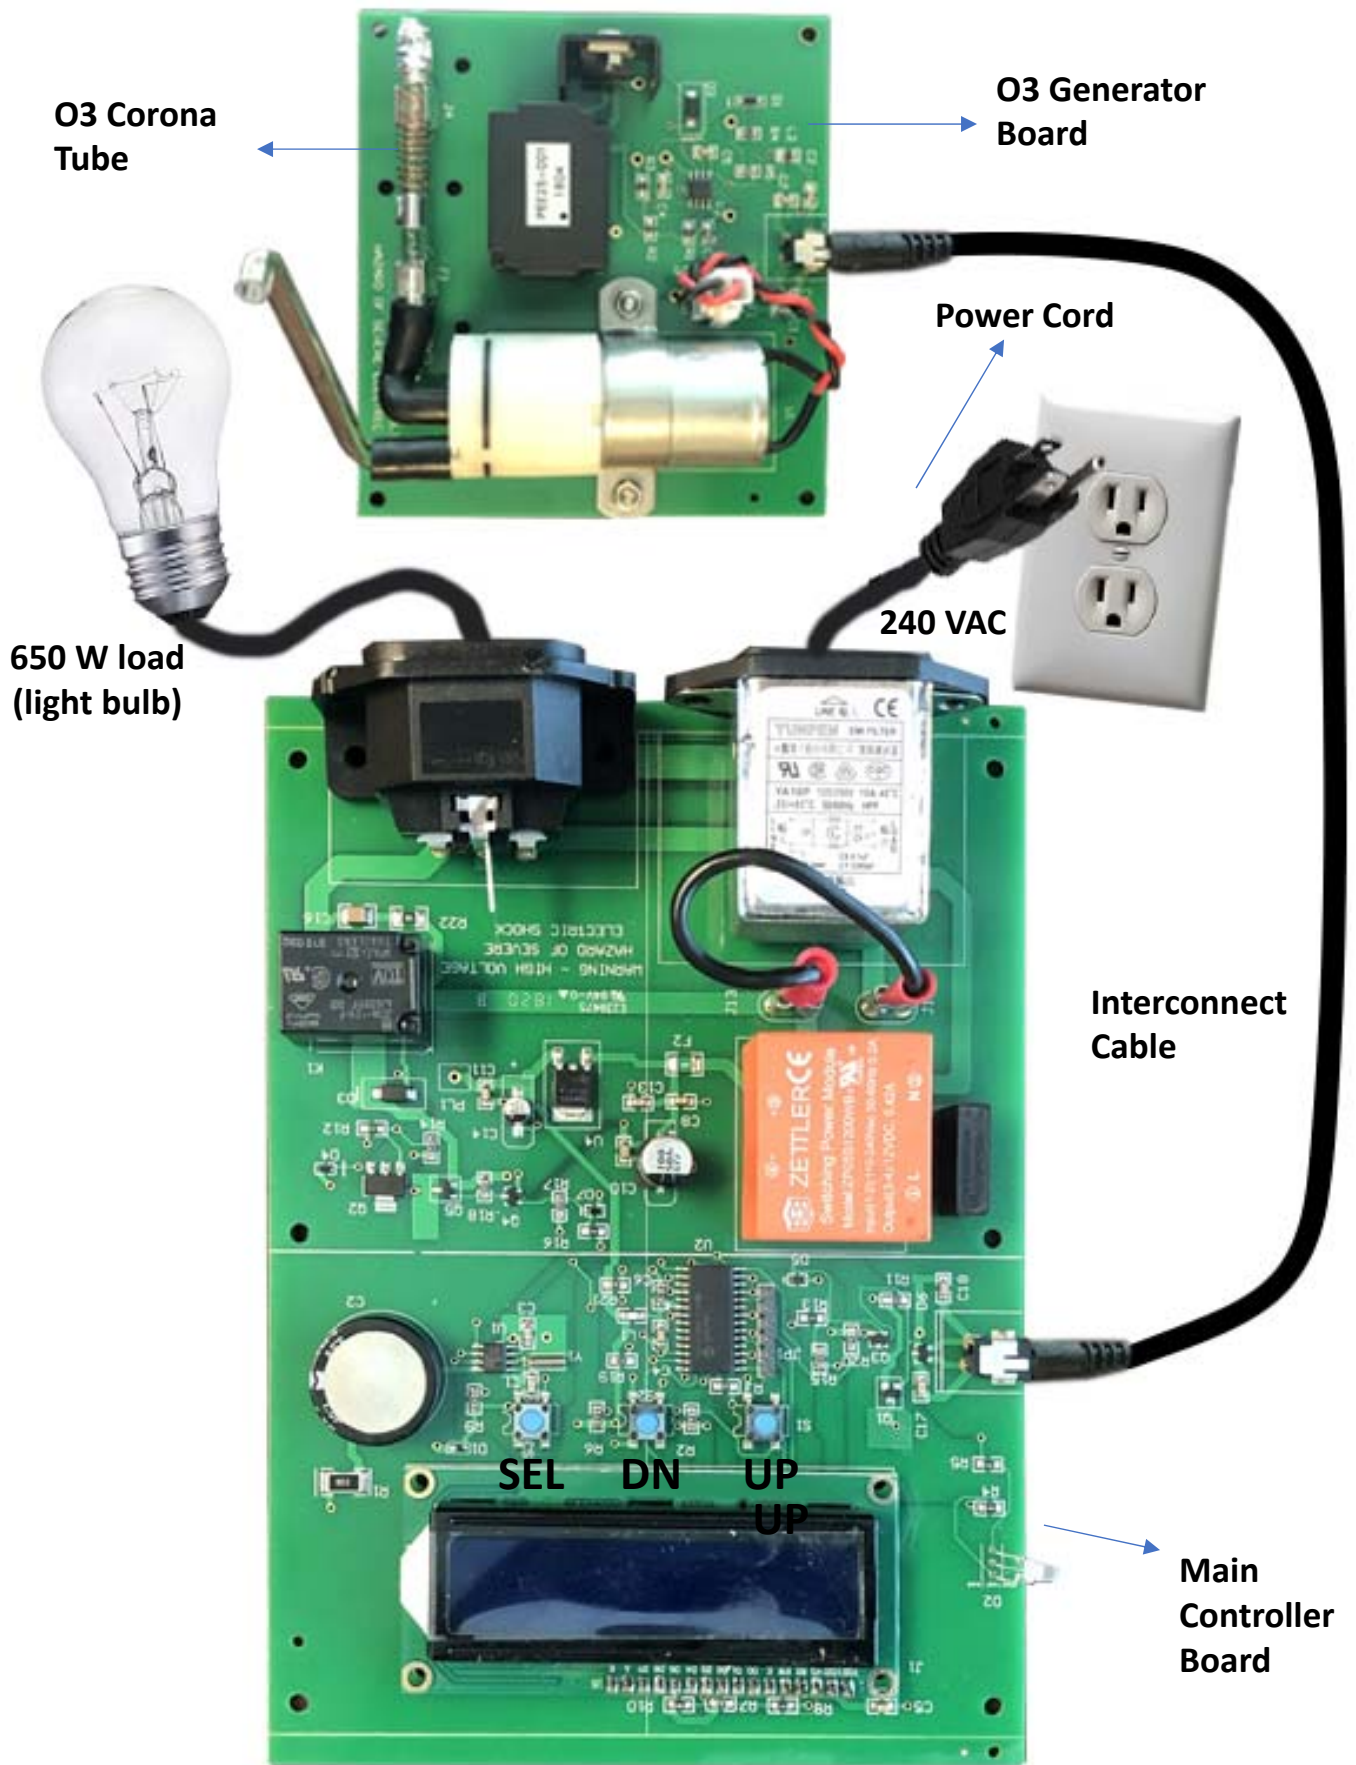

Figure 1- Overall System Test
2. Connect all components as shown in figure 1